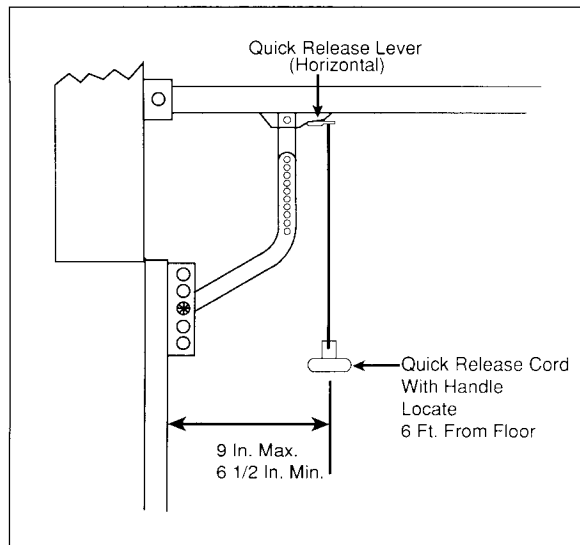

Figure 16
Step 34: Connect the two free ends of the door-arm assembly by rotating the curved section upward to the straight section so that two holes in each section can be matched (see Figure 16). The straight section should be kept as straight up and down as possible.
Step 35: Attach pull cord to quick-release lever on trolley bottom as shown in Figure 16. The red handle should be 6' above the garage floor or high enough to clear vehicles entering the garage.
The quick-release lever (with pull cord attached) must be in the horizontal position (up) (see Figure 16). If the quick-release (disconnect) lever is in the vertical position (down) the trolley bottom will not engage the "traveler" that rides the chain drive and the door will not move.